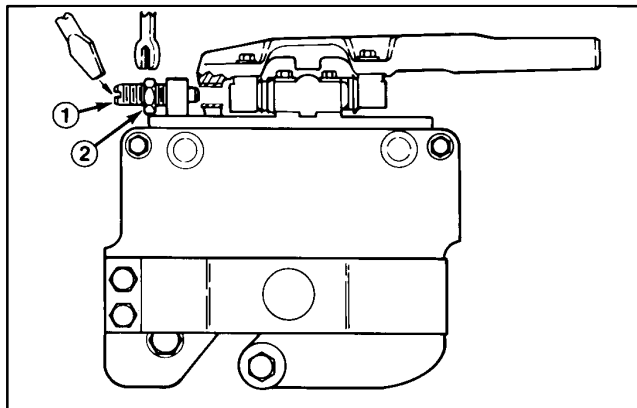
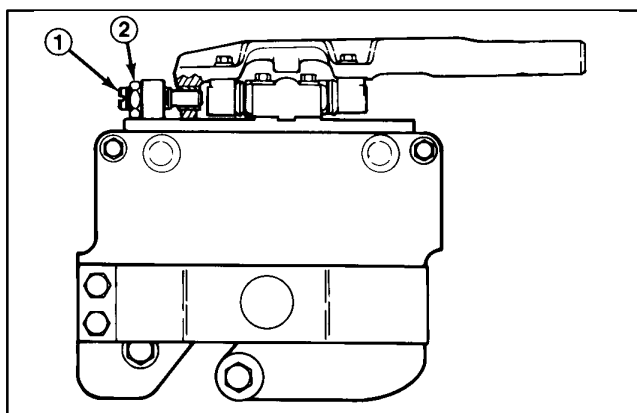

Figure 6
Figure 7
- B. Start engine and lower the cutting units onto a flat surface such as a piece of 3/4" or 1" plywood (at least 20" x 30" in size). Stop engine and remove key from switch. Lock cutting units in the fixed position, by loosening the jam nut on lockout pin (Fig. 6) and screwing pin into hole in pivot arm (Fig. 7). Tighten nut to secure lockout. Raise the front rollers up so they do not contact the flat surface.
J. Loosen lockout pin so cutting unit can float freely (Fig. 6).